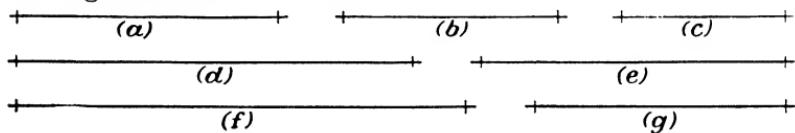

Fig. 4.
- 5.** Measure the length of each of the lines in Fig. 4, using a rule graduated in 32nds.